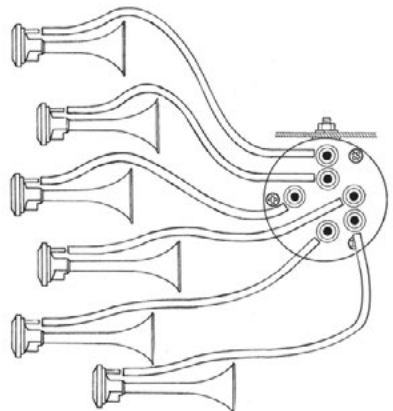

Fig 3
4. Once both the trumpets and the compressor are mounted into position, get the plastic air tubing and cut it into appropriately length pieces, and install the air tube as shown below in Figure 3. Secure the air tubes in place on both ends using the provided coiled clips.